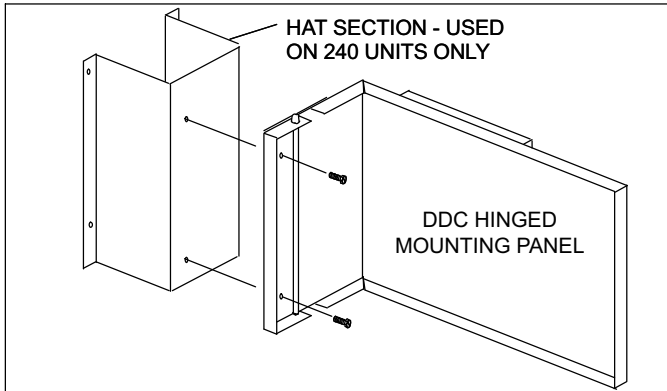

Figure 3. 240 Units - Attaching DDC Hinged Mounting Panel to Hat Section
5. **240 Units:**—Attach the hat section provided in the kit to the DDC assembly using two 5/8” screws (see figure 3.)